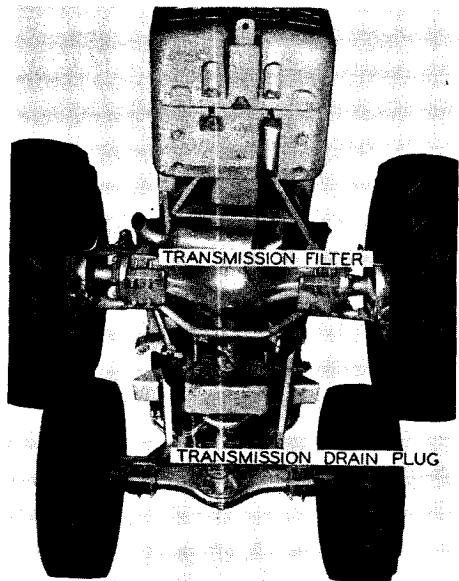

Figure 27. Transmission
1. Remove the drain plug from the transmission, Figure 27.